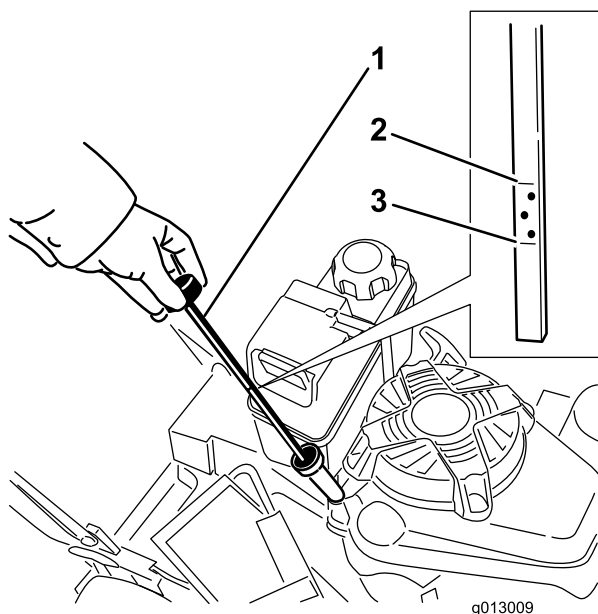

Figure 8
- Remove the dipstick by rotating the cap counterclockwise and pulling it out (Figure 8).
- Read the oil level on the dipstick (Figure 8).